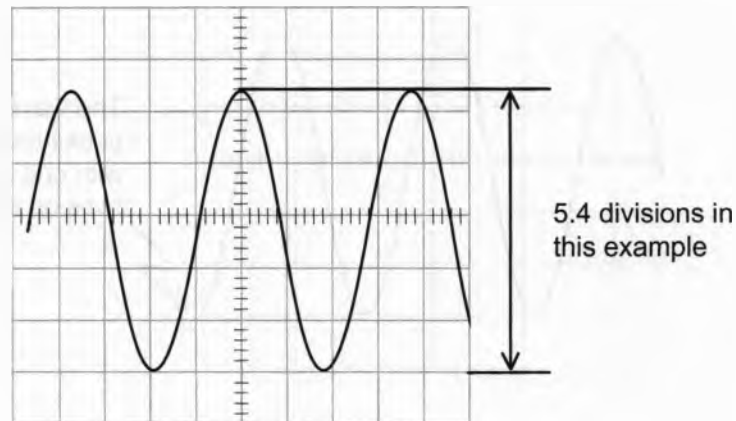

Figure 4
4. Count the number of divisions from the horizontal line that the lower peaks touch to the horizontal line that the upper peak touches (see Figure 4). Note: Each sub-division is worth **0.2** of a division.
For example, if the *Vertical Attenuation* setting is 20mV/division, the peak-to-peak voltage of the signal in Figure 4 is: